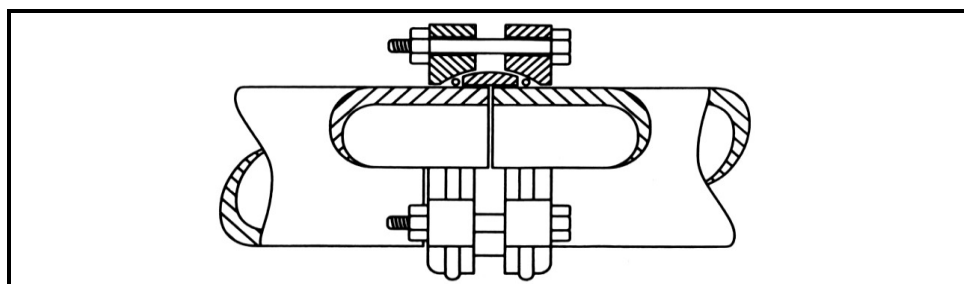

FIGURE 4.7
- 4.7 Identify the coupling in FIGURE 4.7. (1)